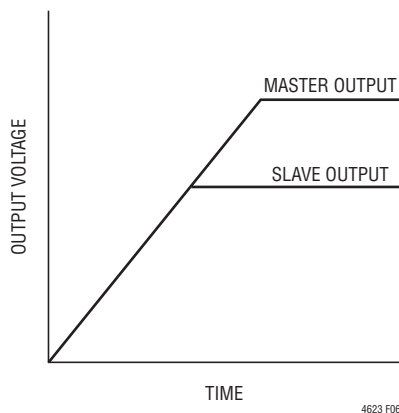

Figure 6. Output Coincident Tracking Waveform
The coincident output tracking can be recognized as a special ratiometric output tracking in which the master's output slew rate (MR) is the same as the slave's output slew rate (SR), waveform as shown in Figure 6.